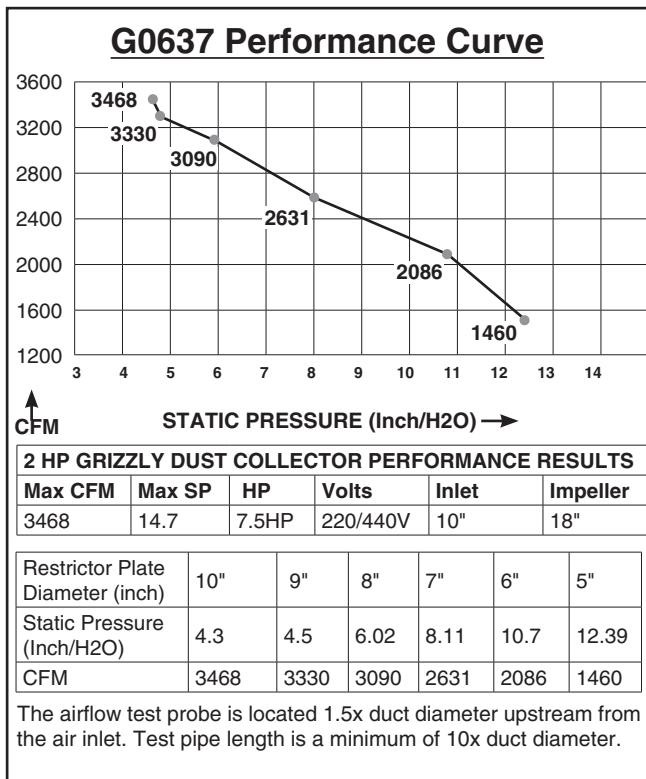

Figure 74. G0637 performance curve chart and data.
5. Compare the total static pressure loss for that line to the closest CFM given in **Figure 74 or 75** for your dust collector on **Page 42**.